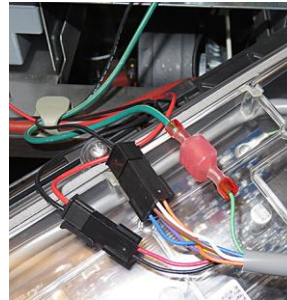

Figure 89
87. Reconnect the controller ground, speaker, vat ID cables (see Figure 89).